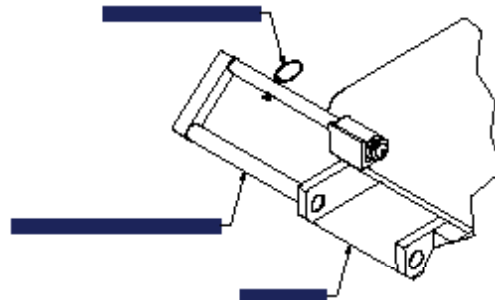

Figure 4-2, Fork Latch Assembly
3. Slide out the Fork Latch Assembly to install attachment to forks. The Retainer Pin needs to be lifted up to allow the Fork Latch Assembly to slide out. (Figure 4-2)